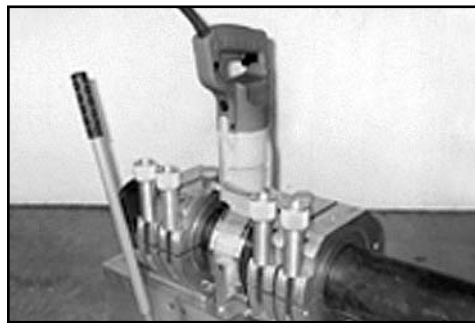

Figure 2.
1. Place facer onto fusion machine between pipe ends. Do not pick up facer tool by the cord. The facer feet will fit into lower slot grooves and the pipe clamps will support facer bracket. The facer will be held in alignment by the pins mounted on top of the clamps. (Figure 2)